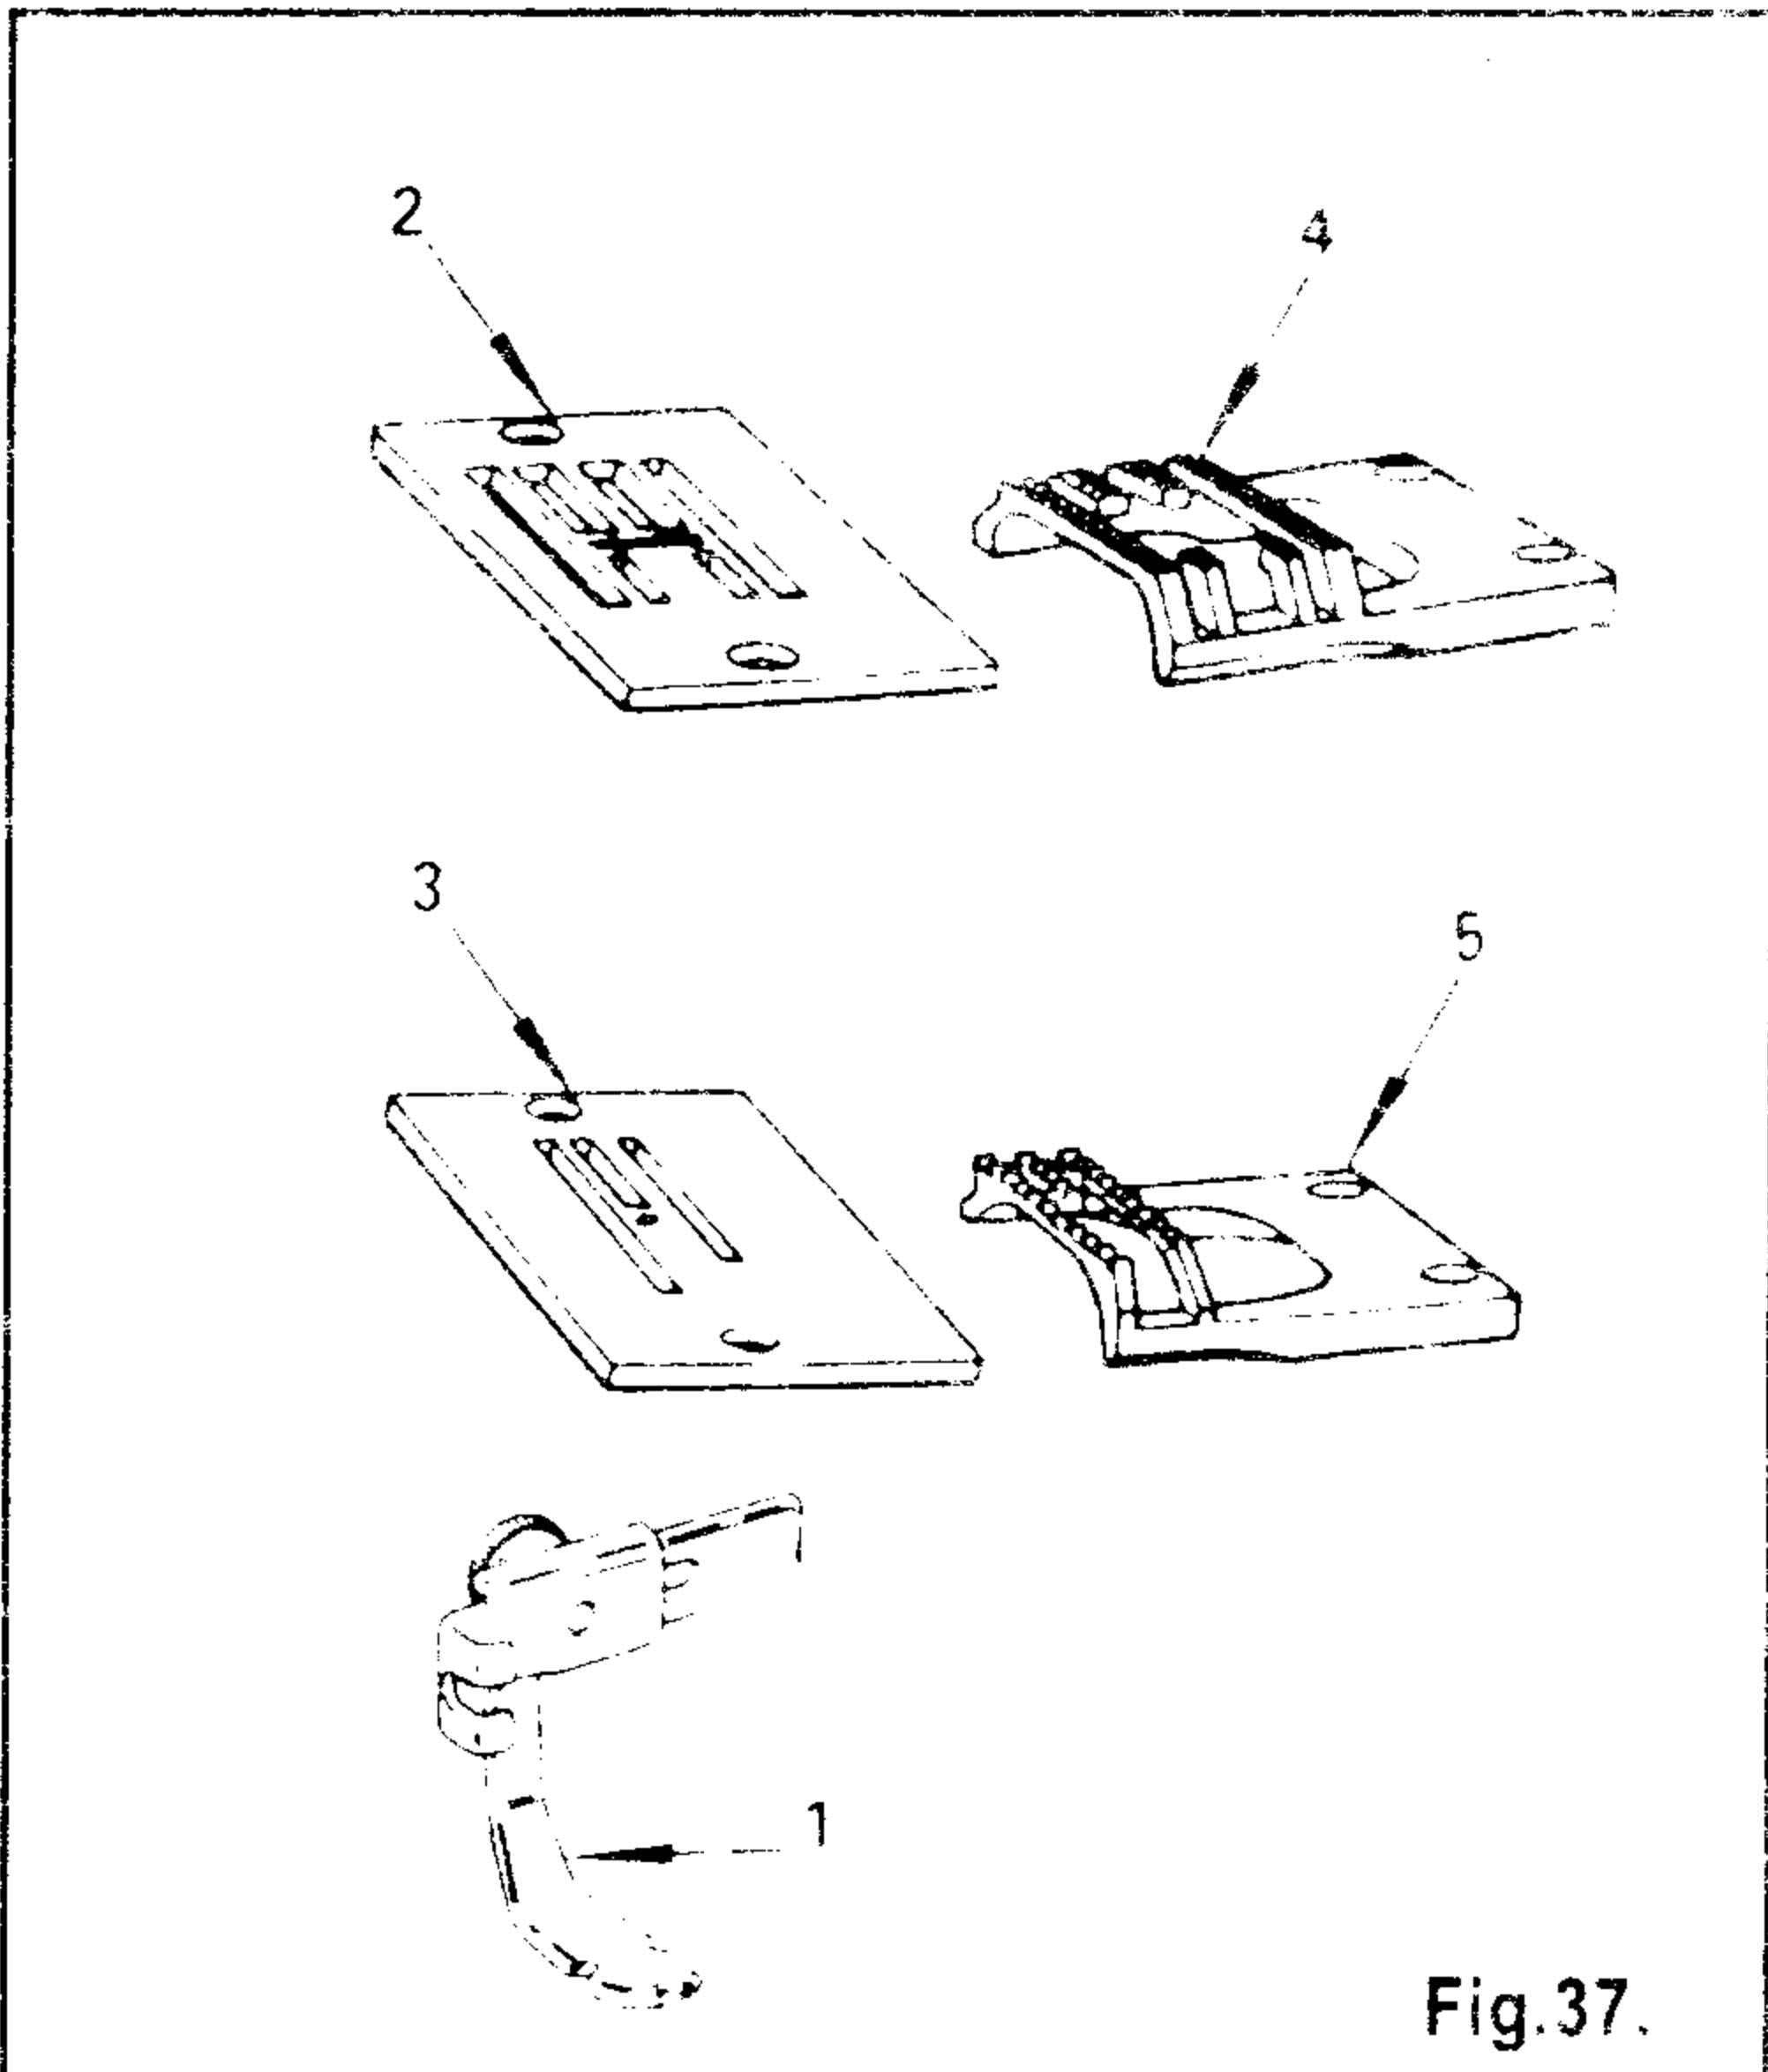

Fig.37.
Zipper Foot (1), General Purpose (2) or Straight Stitch (3) Throat Plate and General Purpose (4) or Straight Stitch(5) Feed Dog as shown in Fig.37 are used for zipper and cord sewing.